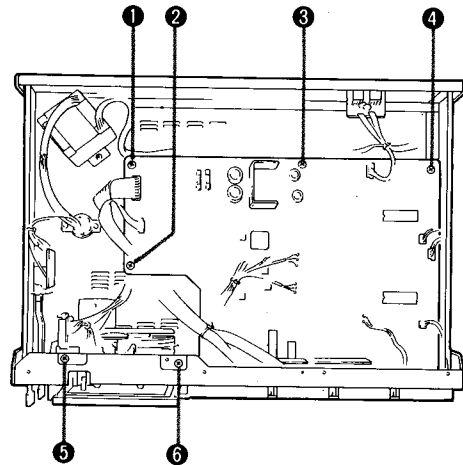
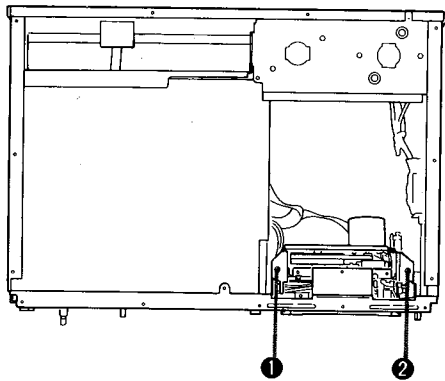

Fig. 6
Fig. 7
5. Remove screws ① to ④ in Fig. 6 and then pull out main P.C. board backward.
4. Remove the screws 5 and 6 in Fig. 6 and the screws 1 and 2 in Fig. 7 and then remove the cassette tape recorder mechanical assembly backward.